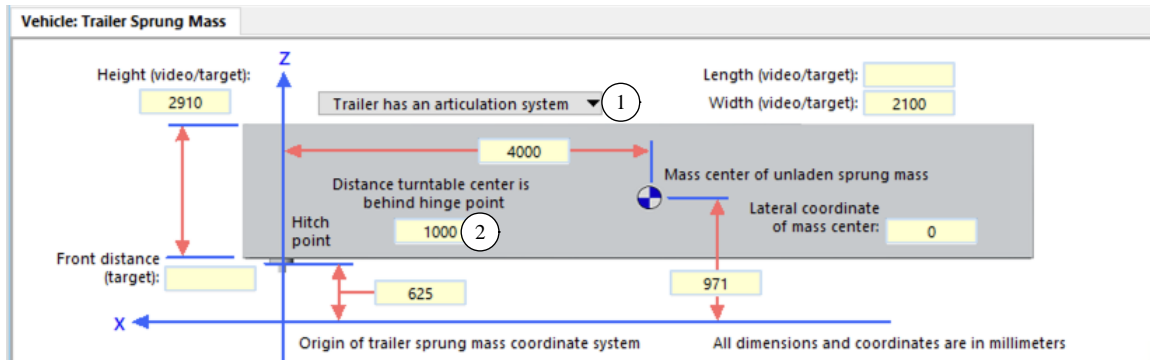

Figure 26. Drop-down control and field to specify an articulation system.
2. The trailer sprung mass screen needs to be configured for an articulation system by selecting the option **Trailer has an articulation system** from the drop-down list control ① (Figure 26). This will present a yellow field that is used for the parameter `LX_ART` ②.